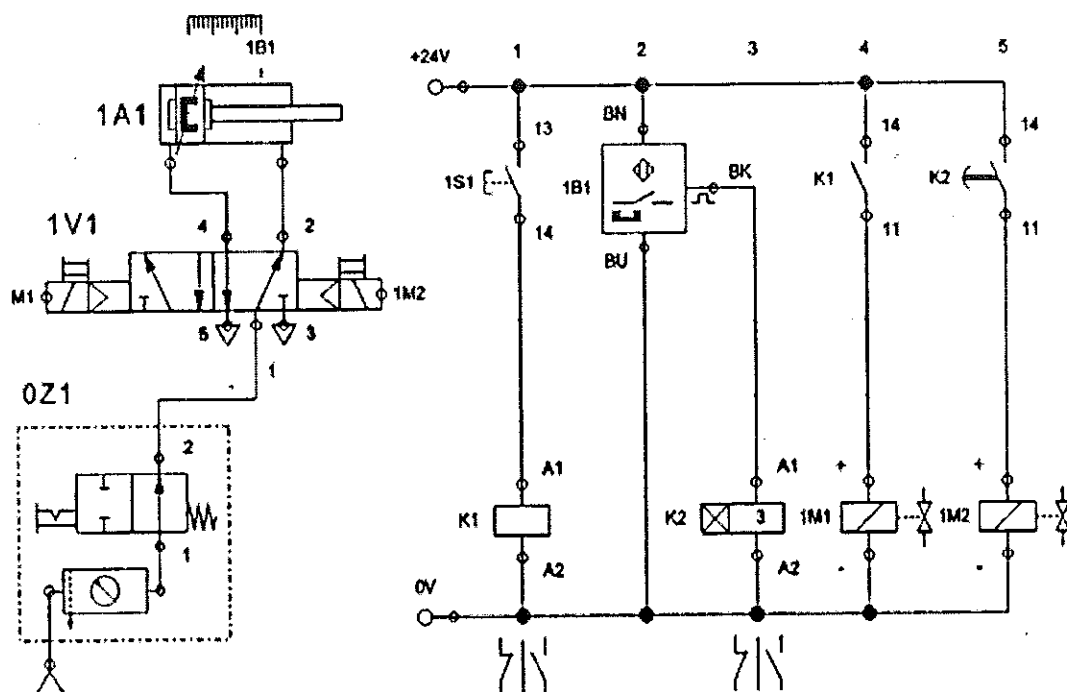

Figure Q07(d)
- d) Describe the sequence of operation for the following electro-pneumatic control system given below in **Figure Q07(d)**.